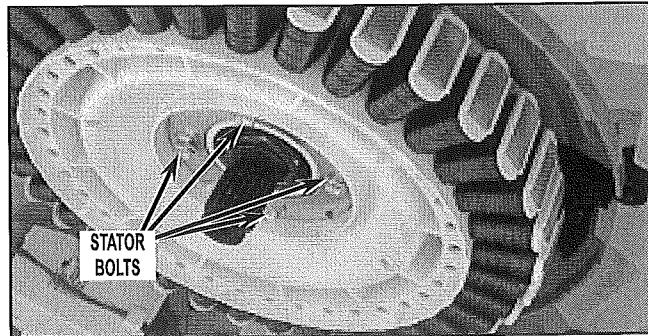

FIGURE 5
- Remove four (4) stator bolts (5/16" or 3/8"). Unclip wire harness and remove stator. Set stator on a clean rag on the floor. See *Figure 5*.